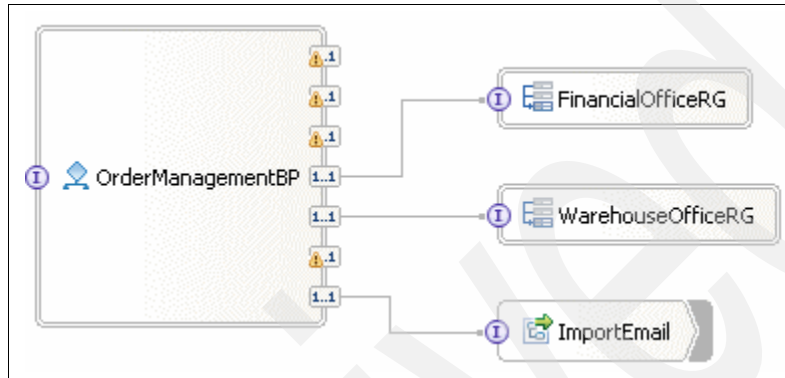

Figure 7-11 OrderManagement assembly diagram
1. Open the OrderManagement assembly diagram (Figure 7-11).